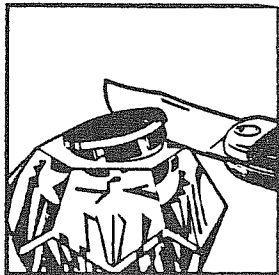

Fig. 10
2. Remove handle button (1). Remove screw (2) and lift off handle (3 or 4). Fig. 10.